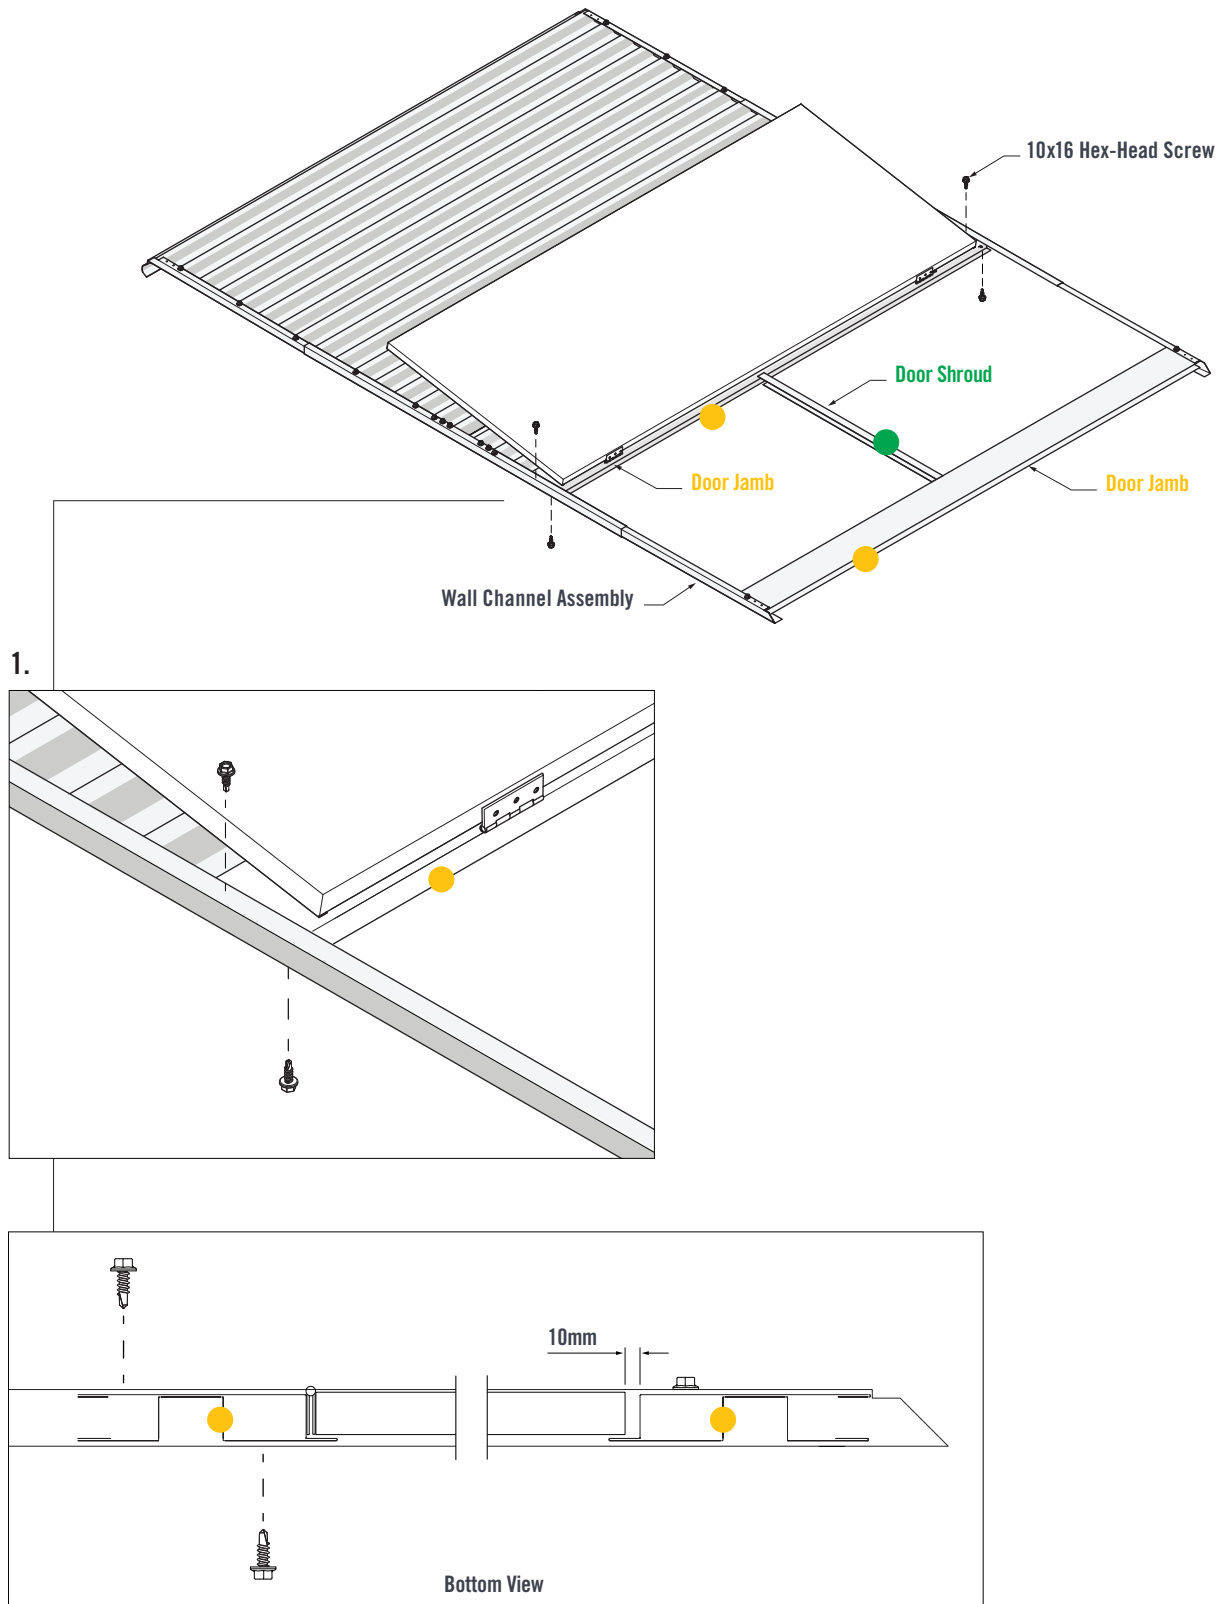

FIGURE 5.3
With the Door open, fit the **Door Shroud** in-between the **Door Jambs**. Use the **Door Shroud** as a guide to set the correct spacing between the **Door Jambs** (Figure 5.3).
1. Fasten two 10x16 Hex-Head Screws through both **Wall Channels** and into the **Door Jamb**. Close the Door and ensure an approximate 10mm gap between the edge of the Door and end **Door Jamb** (Figure 5.3).